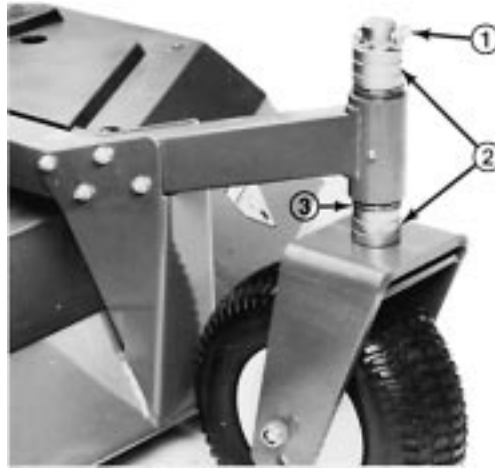

Figure 10
4. On all remaining castor wheel assemblies, remove lynch pin from castor fork shafts (Fig. 10). Remove castor fork shaft and spacer assembly from the castor arm (Fig. 10). Place spacers onto castor spindle to desired height—of—cut setting and install castor fork shaft in arm (Fig. 9). Install remaining spacers onto shaft and secure assemblies with the lynch pin (Fig.10).